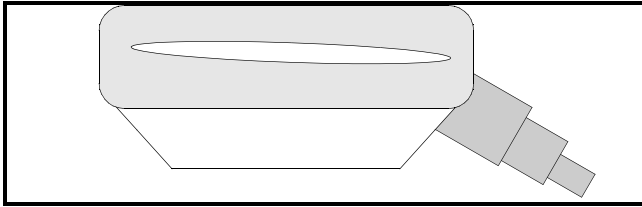

Figure 3-10: Couplant on Transducer Face
1. Apply a bead of couplant 6 mm (0.25 in.) wide along the entire length of each transducer face, as shown in Figure 3-10 below.